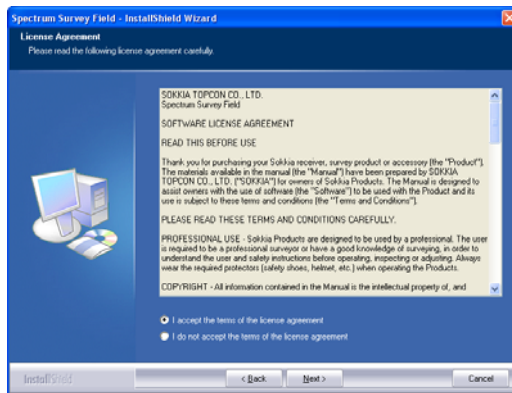

Figure 1-2. License Agreement
2. Review the *License Agreement* (Figure 1-2).